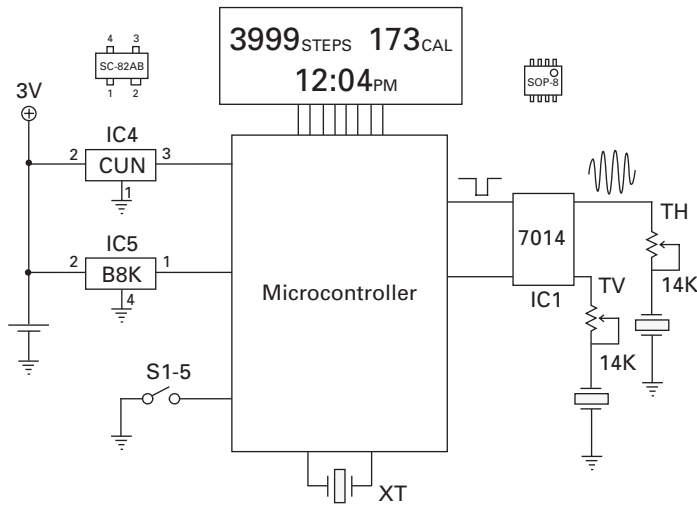

FIGURE 5-6 Simplified schematic of pedometer
The major components and their contributions to the pedometer are shown in the simplified schematic of Figure 5-6. Power is supplied by a single 3V lithium cell that is connected directly to the microcontroller and supporting ICs. Depressing one of the five elastomeric switches, represented by the single switch (S1-5), activates the microcontroller and the LCD. The crystal oscillator (XT) provides the microcontroller with a stable clock signal, which is required for the clock function and to calculate pace.